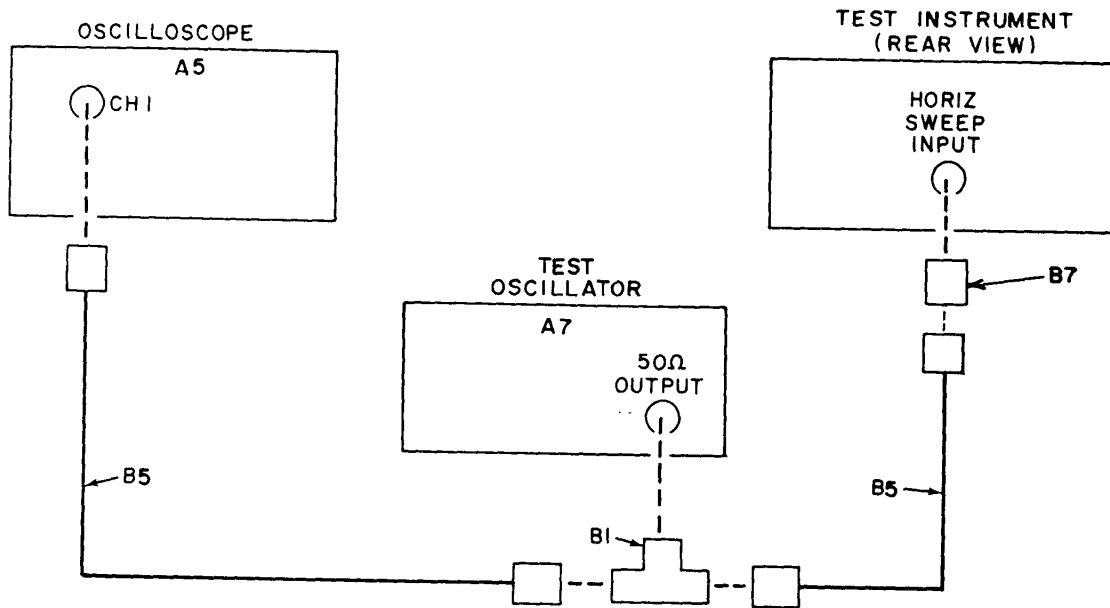

Figure 4. Horizontal sweep - equipment setup,
- (1) Connect equipment as shown in figure 4.
- (2) Set **HORIZONTAL SWEEP INPUT** switch (rear of TI) to **EXT** and rotate **HORIZ GAIN** control fully cw.
- (3) Adjust test oscillator (A7) frequency to 1 kHz and amplitude for a 2.83 V p-p indication on oscilloscope (A5).